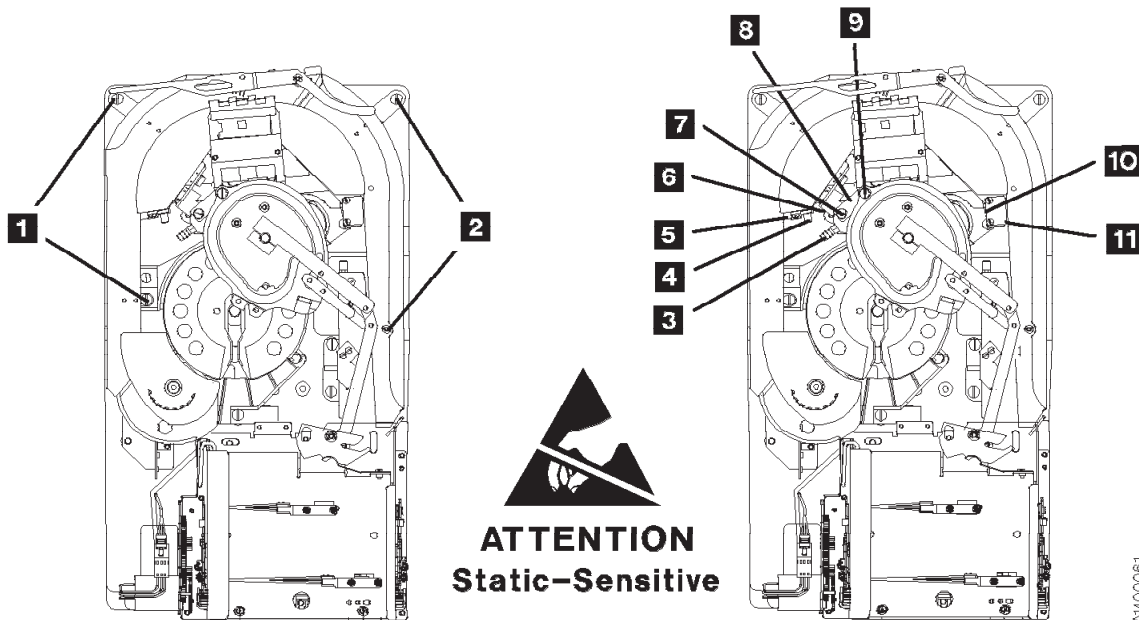

Figure 10-75. Tape Guides, Tape-Lifter Solenoid, Hoses, and Connectors
See Figure 10-75 on page 10-108.
**Attention:** When reinstalling the right tape guide and the left tape guide with screws **2** and **1**, as indicated in Figure 10-75 on page 10-108, make sure that the horizontal surfaces of the right and left tape guides are **exactly level to each other** where the two edges meet. Check this with the edge of a small metal ruler.